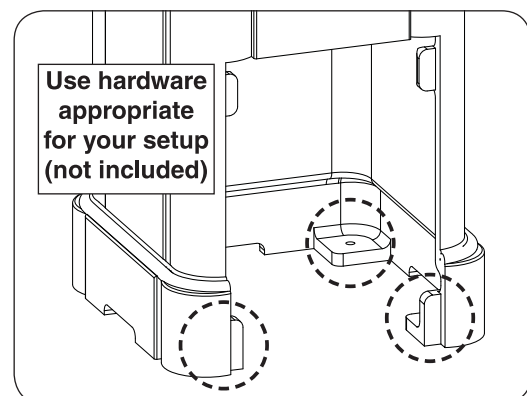

Fig. 15-4 Mount pedestal base to floor
2. Using appropriate mounting hardware for the floor material/construction, secure the base into the floor. The interior of the base has four 1/2" holes that will allow for the base to be fastened to the floor. See Fig. 15-4.